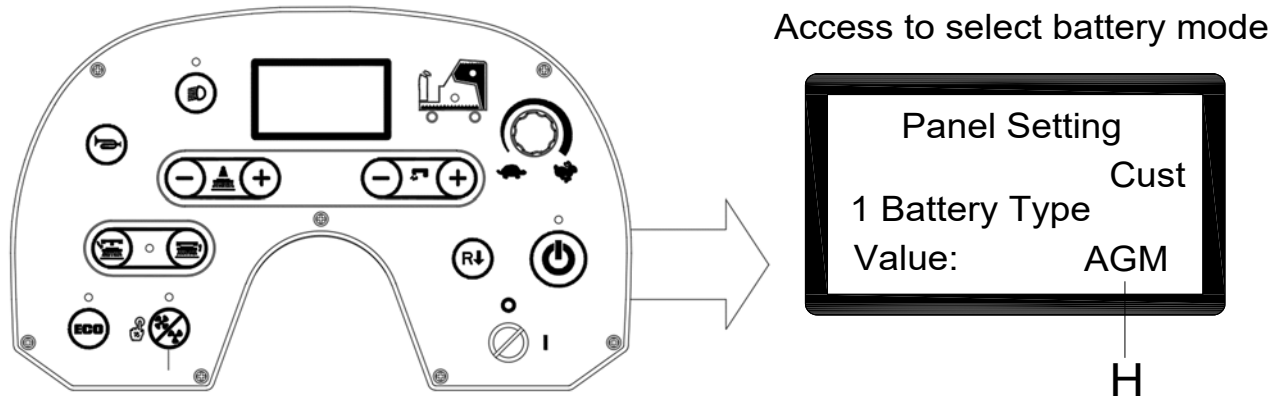

Figure 6
1. Press water flow button "-"(A, Figure 6) and "+"(B, Figure 6) at the same time.
2. Insert the ignition key (C, Figure 6) and turn it to "I".
3. Several seconds later enter to the screen of selecting battery mode (Figure 6).
4. Press water flow button "-"(A, Figure 6) and "+"(B, Figure 6) to select battery mode (H, Figure 6).
5. 3 seconds later show " Update OK" means setting succeeds, restart machine. (C, Figure 6).